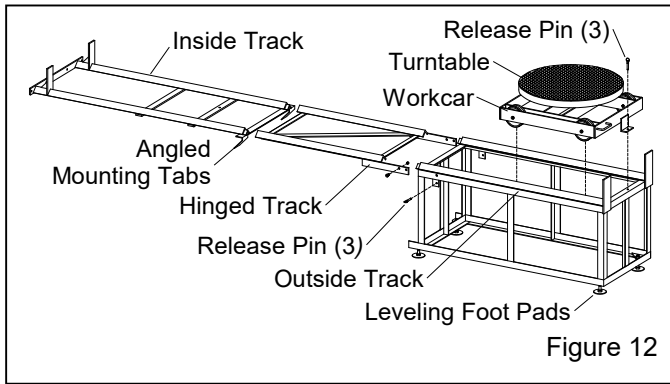

Figure 12
3.4.1 These instructions cover field installation of the 2000 lb. capacity track and workcar with turntable. If the track was ordered with the cabinet, it is partially assembled at the factory. Disregard the instructions that do not apply. Refer to Figure 12 for arrangement of the major components.